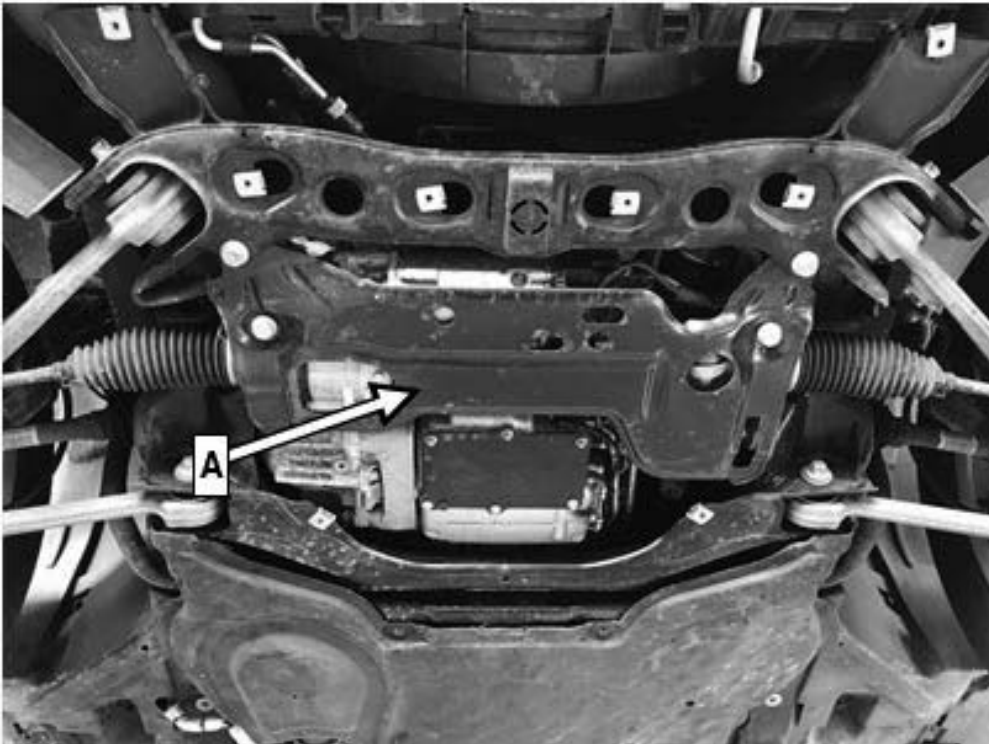

Figure 1
2. Remove mounting plate (A, Figure 1) for steering gear.